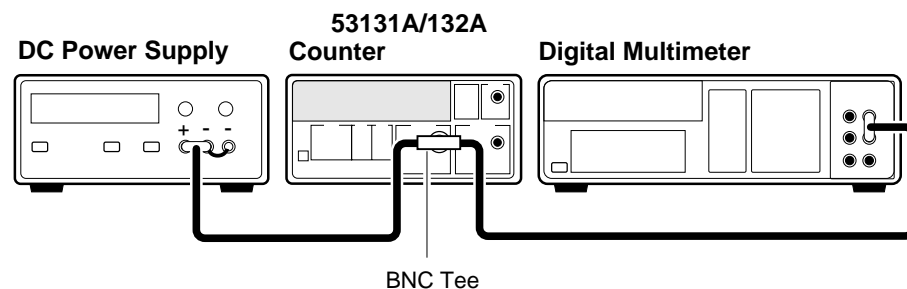

Figure 2-2. Gain Calibration Setup
- 4 Connect the Counter, dc power supply, and digital multimeter as shown in Figure 2-2.